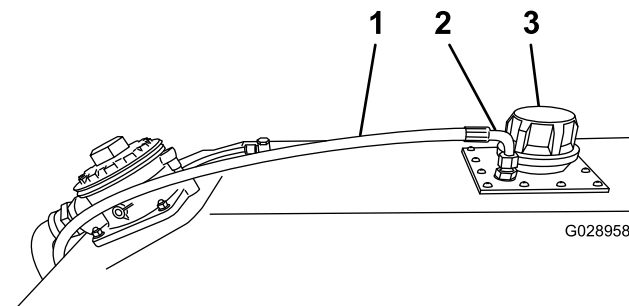

Figure 7
Note: For ease of installation, orient the filler plate so that the small hole is in the lower right corner (Figure 7).
3. Insert the 3/8-inch bulkhead fitting into the filler plate with the long leg into the tank (Figure 7).